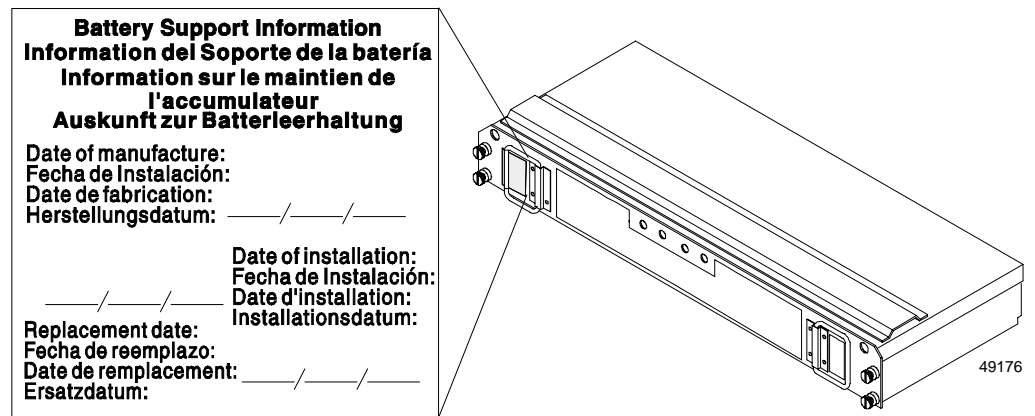

Figure 3-8 Checking the Battery Service Date
2. Check the “Battery Support Information” label (see Figure 3-8).